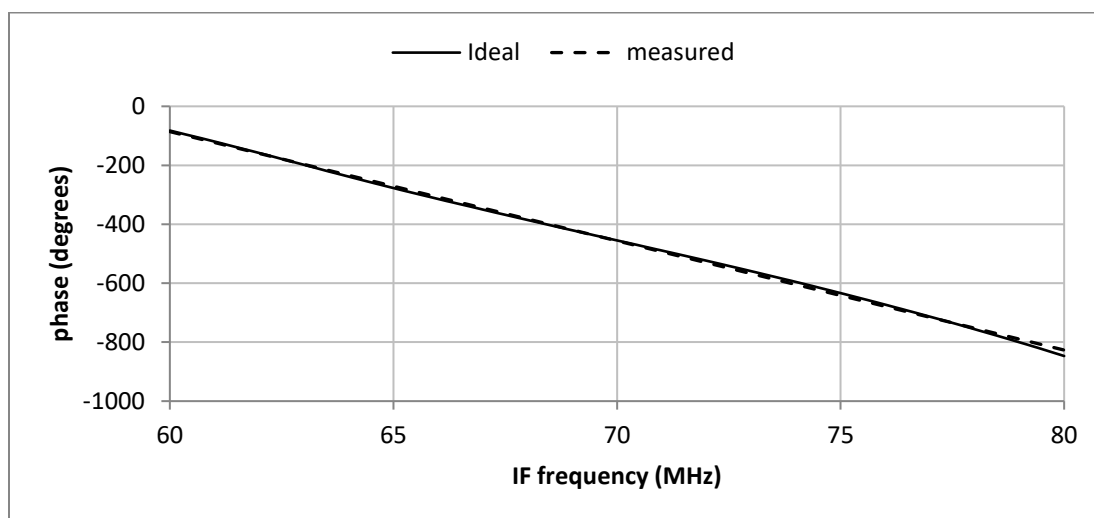

Figure 7. Phase deviation over 20 MHz.
- (3) To give the user flexibility, the device has three resolution modes; two coarse modes and one fine mode. The coarse modes using fractional N PLL allow 1 MHz and 50 kHz steps while the fine mode using PLL and DDS provide less than 1 Hz resolution. See the appropriate sections of this manual for further information.
- (4) Locked and settled to < 1 ppm of final frequencies of > 500 MHz and step size of < 10 MHz. For final frequencies < 500 MHz the settle time applies to accuracy with 500 Hz of the final frequency for a 10 MHz step. See Figure 7 for examples of other tuning step settling times. When fast-tune mode is enabled the noise damping capacitor across the main YIG tuning coil is disengaged, resulting in an increase of the rate of current flow through the coil and settle to a steady state quicker. Lock time begins when the full tuning word command is received by the device.